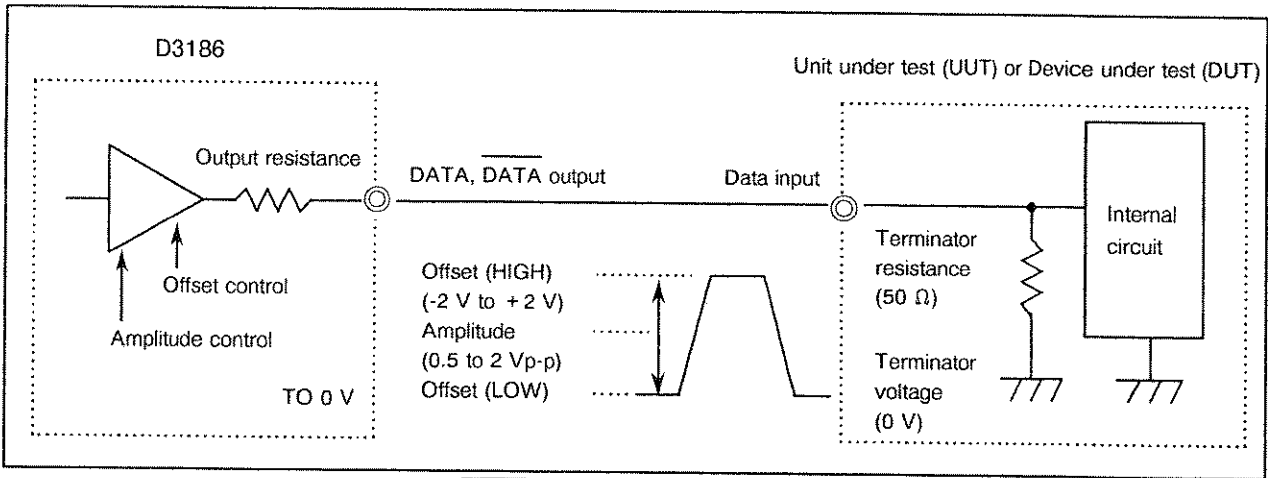

Figure 4-1 DATA and DATA Output, DC Connection, and 0 V Termination
- (1) When the UUT/DUT data input connection is DC and the terminator voltage is 0 V (see Figure 4-1.):